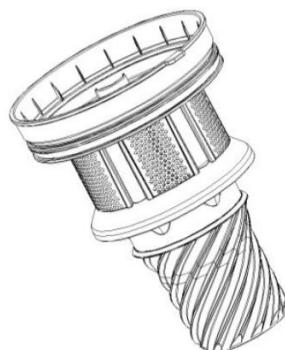

Fig.18
- 5) Fig.18 - wash cyclone assembly under a running tap with warm water.